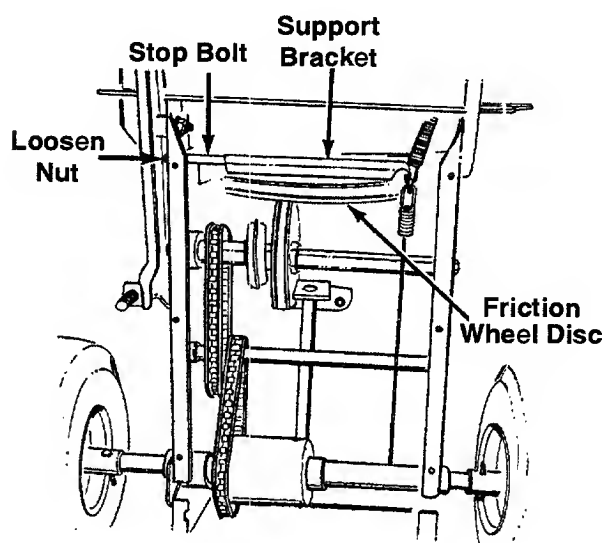

Figure 21
7. Loosen the nut on the stop bolt until there is clearance between the support bracket and the friction wheel disc. See Figure 21.